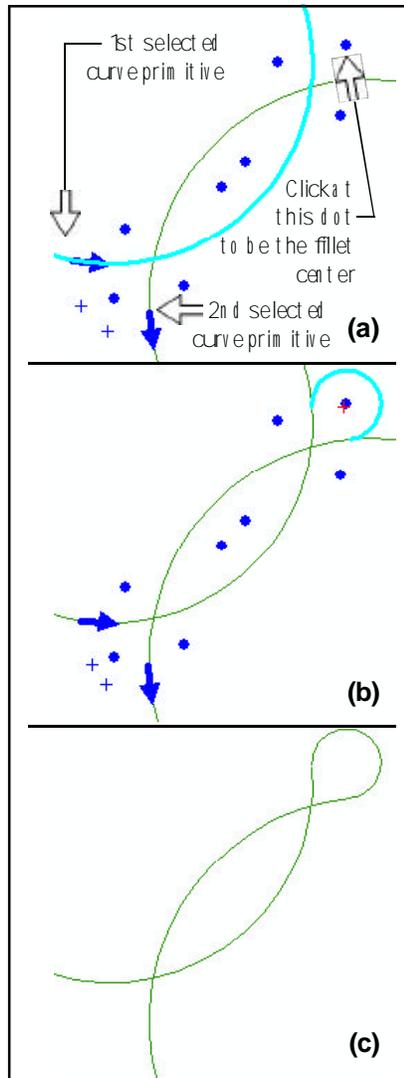

Figure 15
Shown in Figure 15(a) are two curve primitives, their direction blue arrows, the eight possible fillet centers, and the hollow arrowhead denoting the center of the purportedly desired fillet. Shown in Figure 15(b) is the program's first selection of the tangent fillet arc, which for the sake of demonstration we will consider as the desirable one. Note in Figure 15(c) the resultant trimming of the primitive curves, and that the longer arc portion of each primitive is the portion that has been maintained.
- The curve primitive selection is the same as indicated in Figure 15(a),